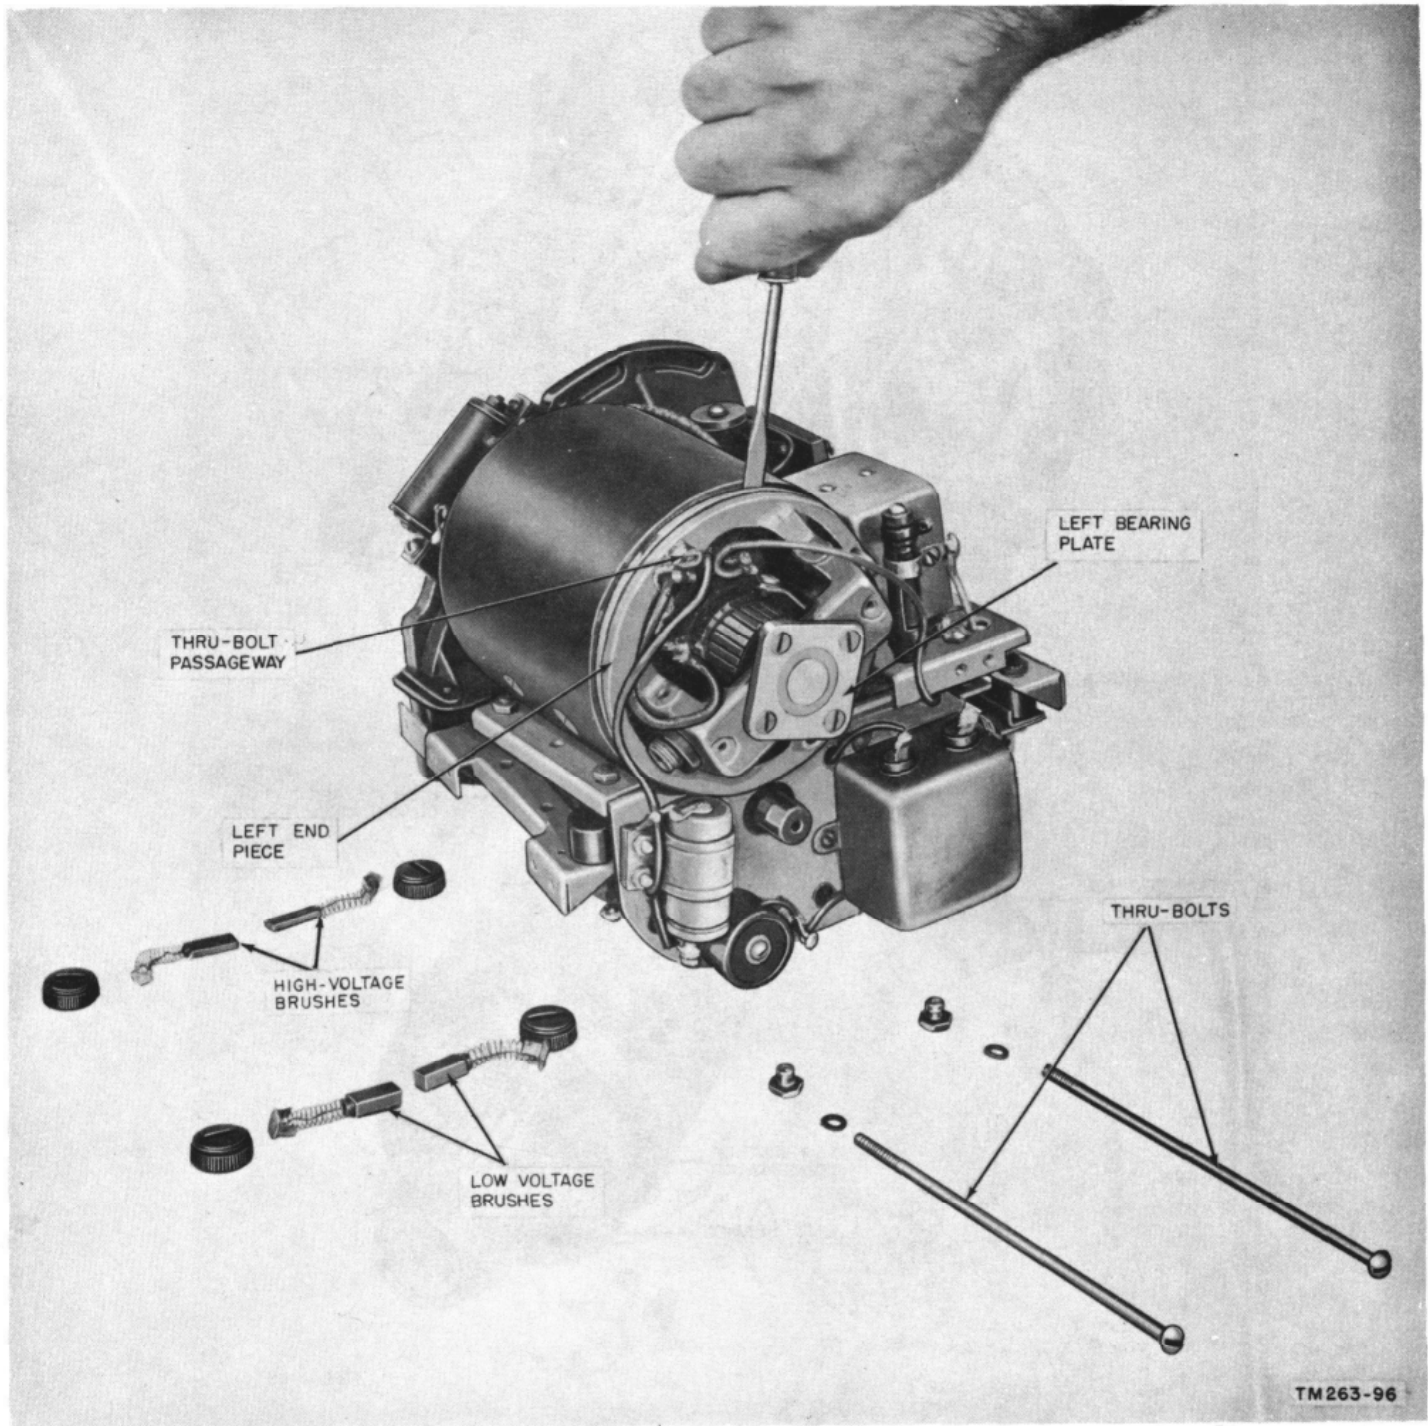

Figure 154. Prying off generating unit left endpiece of Generator GN-58-(\*).
e. Remove the two through-bolts from the left generating unit endpiece (fig. 154).